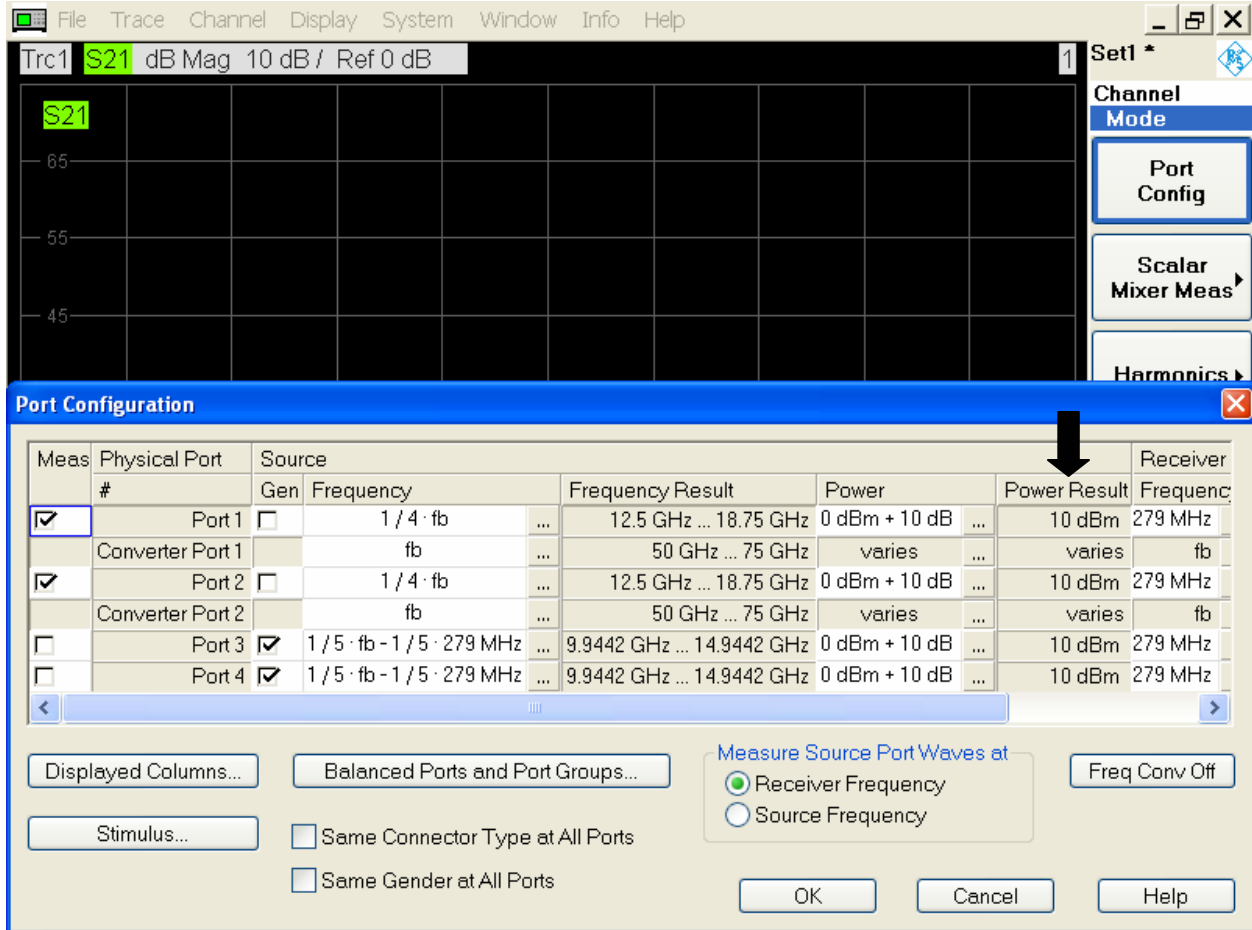

Figure 11 – Completed Port Power Configuration
- Repeat steps 2, 3 and 4 for Port 2, Port 3 & Port 4 row and “Power” column 0 dBm + 7 dB (Figure 11).